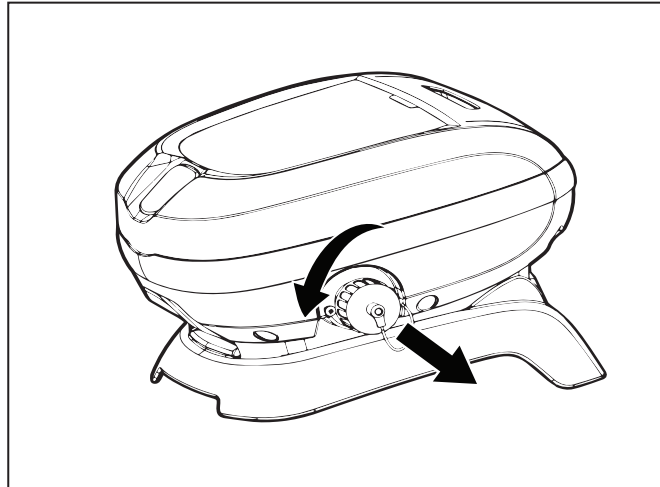

Figure 2. Remove Protective Cap
2. Unscrew the protective cap for the floating cable from the side of the control unit by turning counter-clockwise (Figure 2).